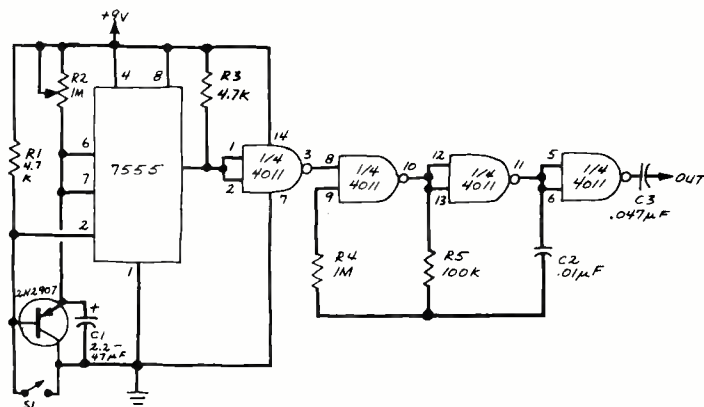
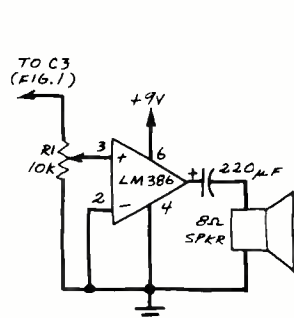

Fig. 1. Schematic diagram of an event-failure alarm.
Fig. 2. A simple amplifier to be used with the event-failure alarm.
Figure 1 is the circuit for a straightforward two-chip, event-failure alarm. The 7555 timer is connected as a missing pulse detector, and the 4011 quad NAND gate serves as a tone generator.
**Adding an Amplifier.** Though the circuit in Fig. 1 will drive a small 8-ohm speaker at low volume, much better results are obtained by first amplifying the tone signal. Figure 2 shows a very simple power amplifier designed around a low-cost LM386 and little else. Potentiometer  $R1$  controls the input signal level and therefore functions as a volume control for the amplifier.
**Adding a Logic Input.** Many new applications for the basic circuit in Fig. 1 become available if the alarm is reset under digital control. A simple